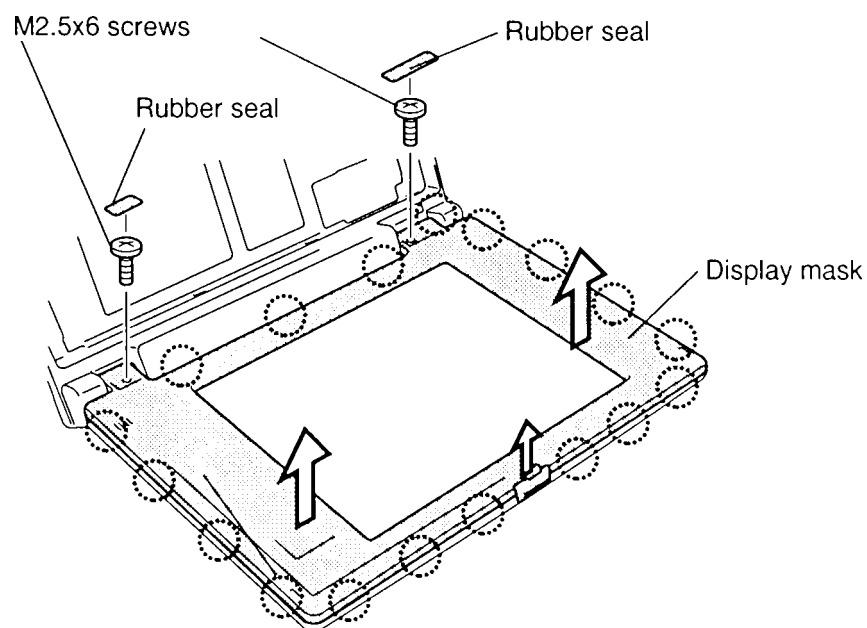

Figure 4-21 Removing the display mask
To remove the T2110/T2130 series display mask, follow the steps below and refer to figure 4-21.
3. Remove **two rubber seals** from the display hinges to expose **two screws** securing the **display mask** (figure 4-21).
4. Remove the **two M2.5x6 screws** that were covered by the rubber seals (figure 4-21).
5. Carefully insert your fingers between the mask and the LCD panel and pry open the latches. Start with the **six latches** across the top of the display mask (figure 4-21). Be aware that the LCD latch on the front cover may slip out.
6. Continue unlatching the mask along the **sides (four latches on each side)**, at the bottom (**three latches**) and display supports (figure 4-21). One latch at the smaller display support and three latches at the larger display support are not indicated in the illustration.
To install the T2110/T2130 series display mask, follow the steps below and refer to figure 4-21.
1. Set the **display mask** in place and secure the latches beginning with the display supports (figure 4-21).
2. Continue along the bottom of the display (**three latches**), along the sides (**four latches**) and across the top (**six latches**) (figure 4-21).
3. Secure the display mask with **two M2.5x6 screws** at the display hinges (figure 4-21). If necessary, replace the LCD latch for the front cover.
4. Attach the **two rubber seals** at each display hinge to cover the screws (figure 4-21).